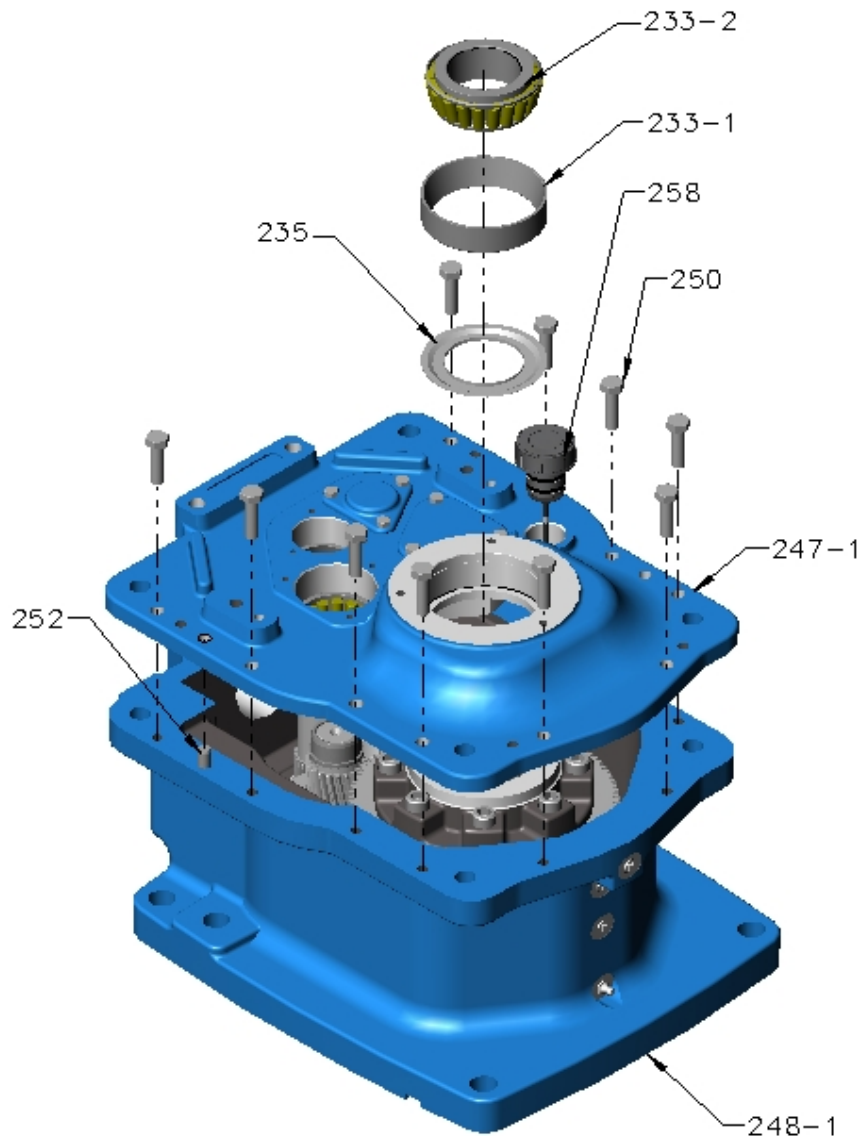

Figure 5 – Case Lid
- E. Remove case lid [247-1] (refer Figure 5).
- F. Remove from case lid [247-1] (refer Figure 5):